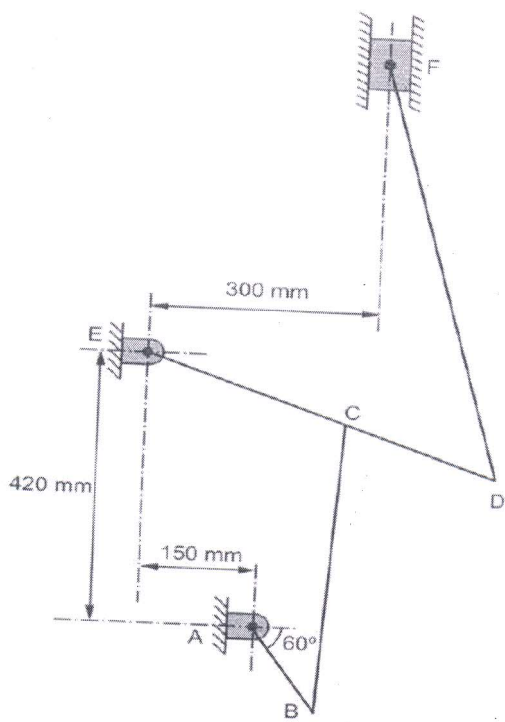

Fig.2 (Q 4)
- Q4) For the mechanism as shown in **fig.2**, the crank AB rotates at 180 rpm uniformly in clockwise direction. The dimensions of various links are as follows; AB = 150 mm, BC = 450 mm, CE = 240 mm, CD = 210 mm, DF = 660 mm. Find acceleration of slider F & angular acceleration of link DF. [16]